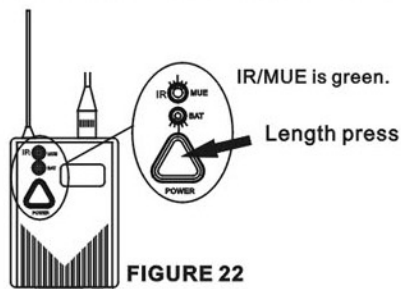

FIGURE 22
1. Length press (2-3 seconds) the POWER button of the transmitter IR MUE BAT green light, the transmitter enter adjusting code and waiting for transferring the RF signal(Figure 22).